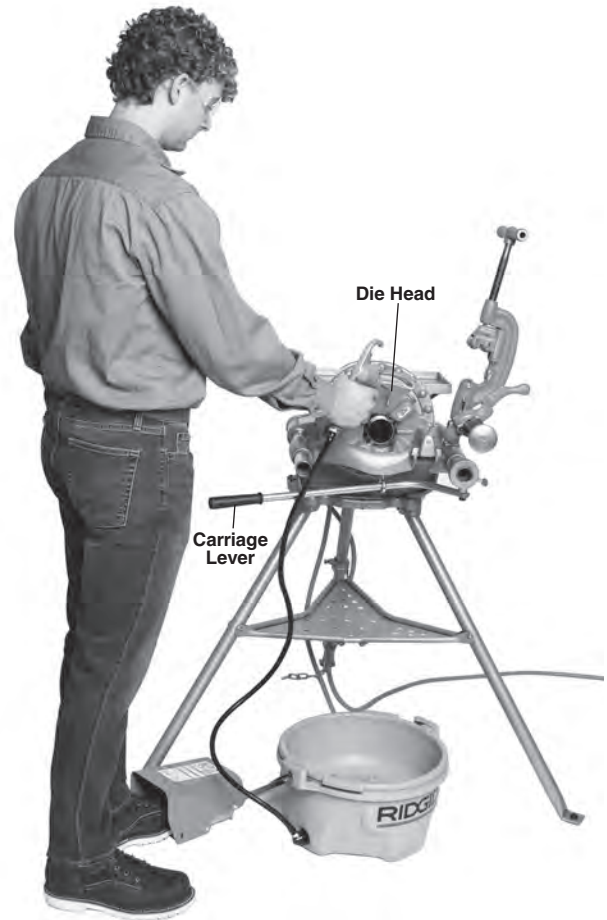

Figure 23 – Threading Pipe with Die Heads/Proper Operating Position
6. Move the carriage lever to bring the die head to pipe end (*Figure 23*). Apply slight force to the carriage lever to start die head onto the pipe. Once the die head starts threading pipe, no more force is required on the carriage lever.